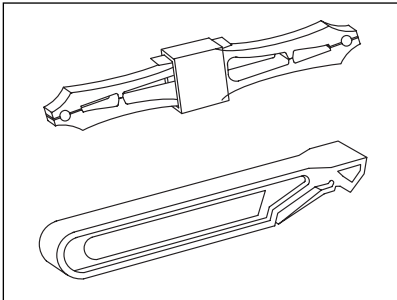

Figure 9.18
- 3. Use the fuse puller (Figure 9.18) included in the parts kit to grasp the bulb.